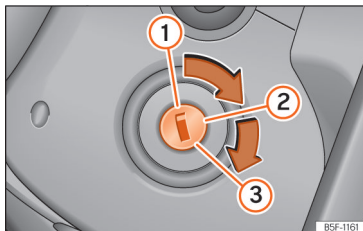

Fig. 233 Ignition key positions.
Key positions » Fig. 233
- Turn the key to position »» Fig. 233 ②.
- Keep turning the key to position »» Fig. 233 ③ without stepping on the accelerator.
- Once the engine starts, release the key. When it is released, the key returns to position ②.
- Vehicles with ignition locks: Turn the key to position »» Fig. 233 ①.